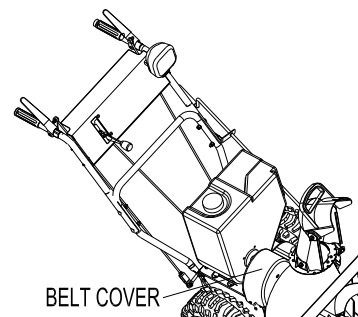

FIG 16
6.11.1 Loosen bolts and remove the belt cover. (FIG 16)